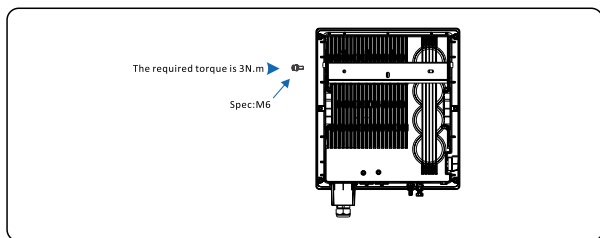

Figure 4.14 Securing the inverter
Step 2 Mount the inverter on the rear panel and keep them aligned with each other, as shown in **Figure 4.14**.
Step 3 Tighten the two hexagon screws at the both sides of the inverter to a torque of $3\text{N}\cdot\text{m}$. As shown in **Figure 4.14**.